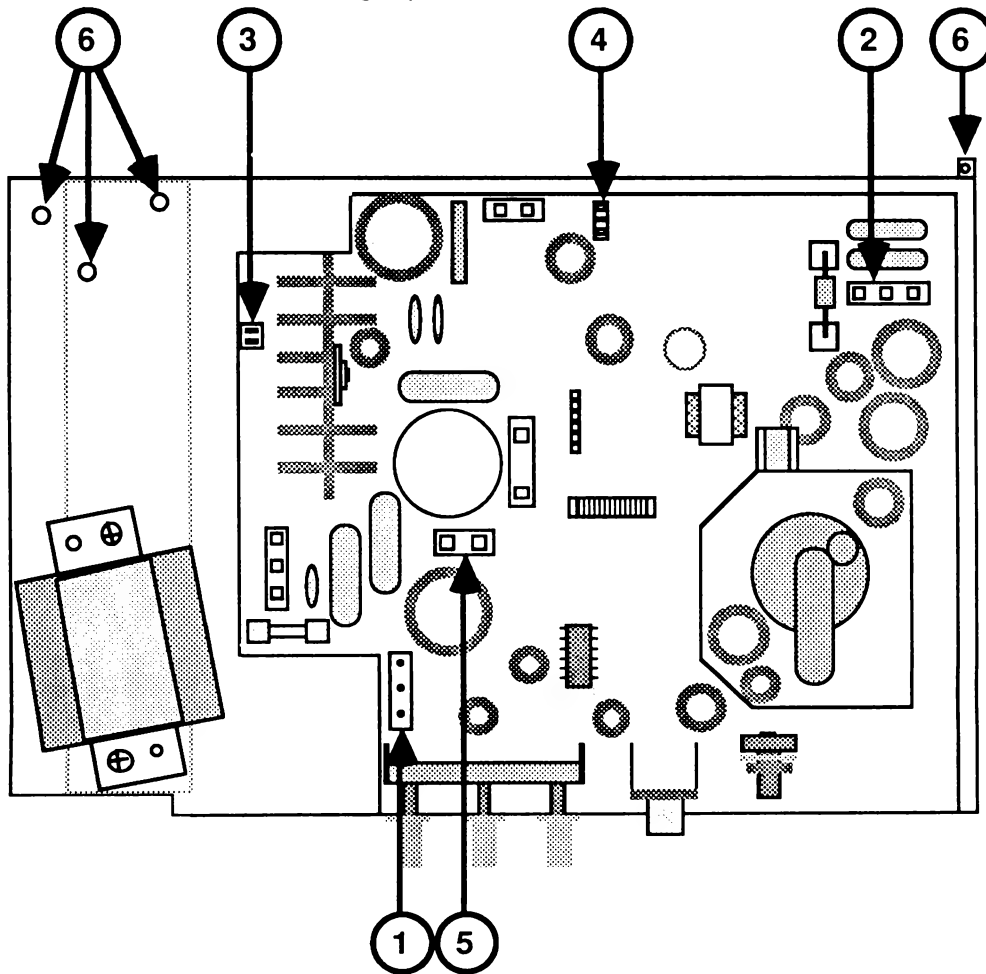

FIGURE 8
4. Reconnect the green/yellow yoke wire (P3) at J3 (Figure 8, #1).
5. Connect the red/blue yoke wire (P4) at J4 (Figure 8, #2).
6. Connect the LED wire at J5 (Figure 8, #3).
7. Connect the contrast control cable at J8 (Figure 8, #4).
8. Connect the orange on-off control wire to J7 (Figure 8, #5).
- Fasten the four screws holding the logic board assembly to the CRT mounting plate (Figure 8, #6).